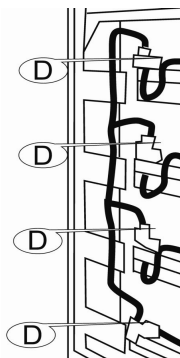

Figure-11 Connection sockets between trays
Do not connect the socket fixed on device chassis, shown in Figure-11 (D) and the socket fixed to battery tray. This should be done once all connections are provided.